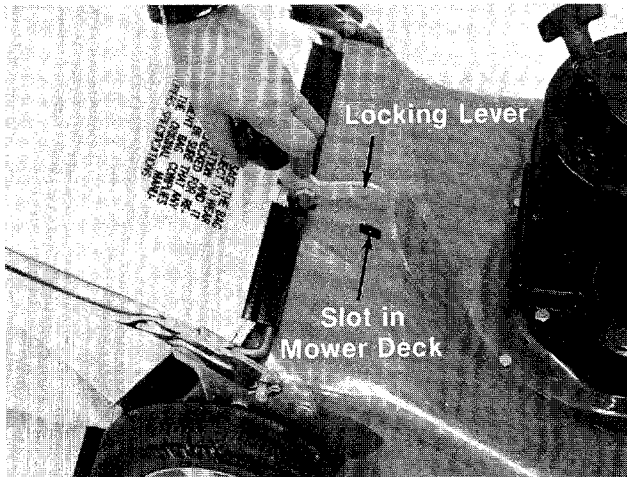

FIGURE 18.
- ← 3. Move the locking lever forward and hook in slot on mower. See figures 18 and 19.